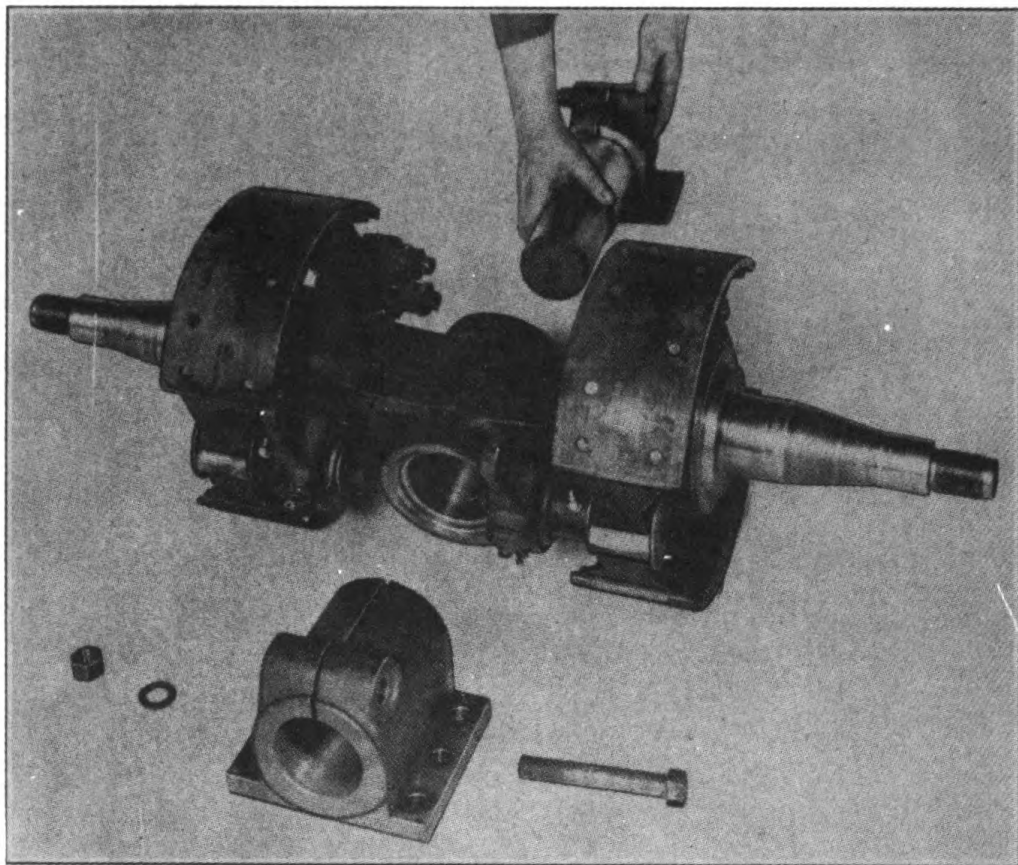

FIGURE 13. REMOVING TRUNNION SHAFT
d. Pull the trunnion axle shaft out of trunnion axle as illustrated in Figure 13. Remove the trunnion bracket as instructed in sub-paragraph c.